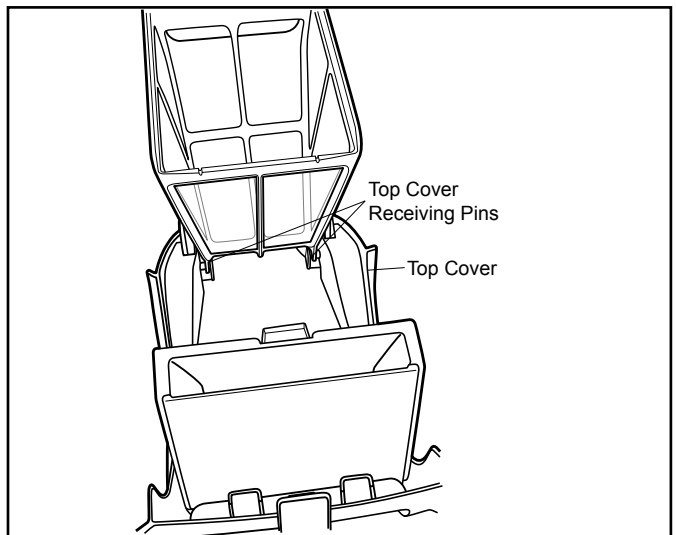

Figure 12. Engaging the Filter Canister Hooks on Top Cover
1. Position the filter canister hooks on the top cover receiving pins, as shown in Figure 12.